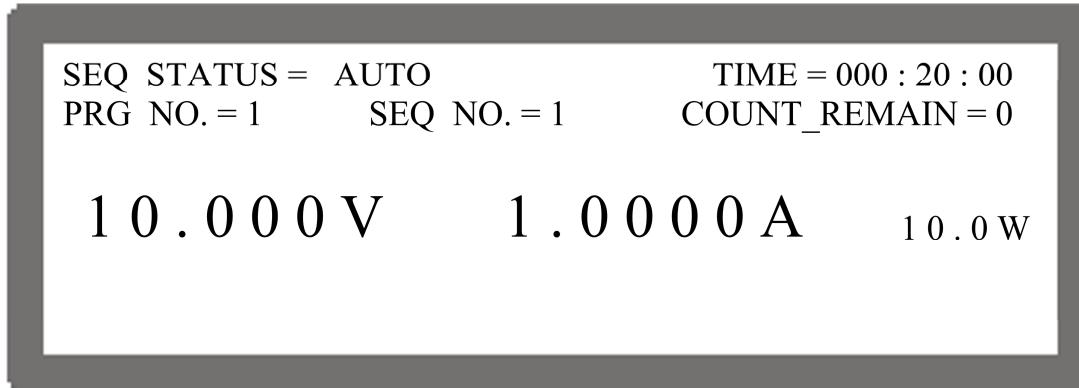

Figure 4-16
2. Press “**OUTPUT**” again to confirm the execution and go to MAIN PAGE as shown in Figure 4-16. To stop the execution, press “**EXIT**”. The screen will return to the standby MAIN PAGE.